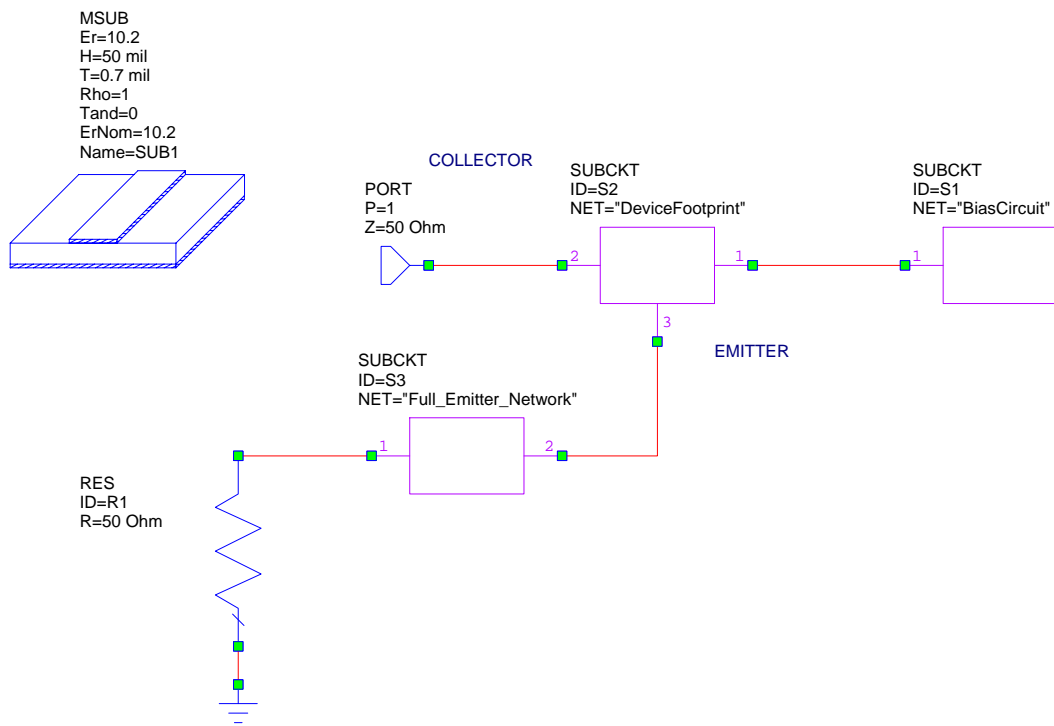

Figure 7: Schematic for generation of the load, or resonant network, attached to the collector.
28. Simulate the circuit and open up a new graph, where you will plot out the real and imaginary components of the impedance looking into the collector. I named my circuit *OSCILLATOR*, shown in Figure 7, and show the real and imaginary components of Z_{11} plotted in Figure 8.